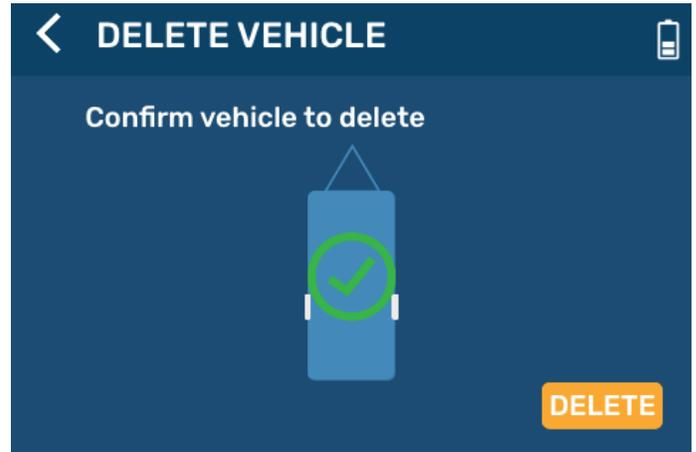

Fig.34
3. Confirm which vehicle to delete (Fig.34) and tap DELETE.